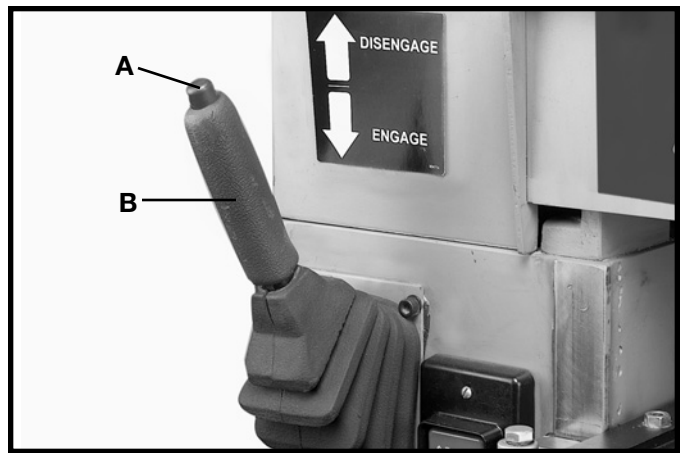

Fig. 17
2. To disengage the feed rollers, simultaneously push button (A) Fig. 17, and move handle (B) to the raised position, as shown.